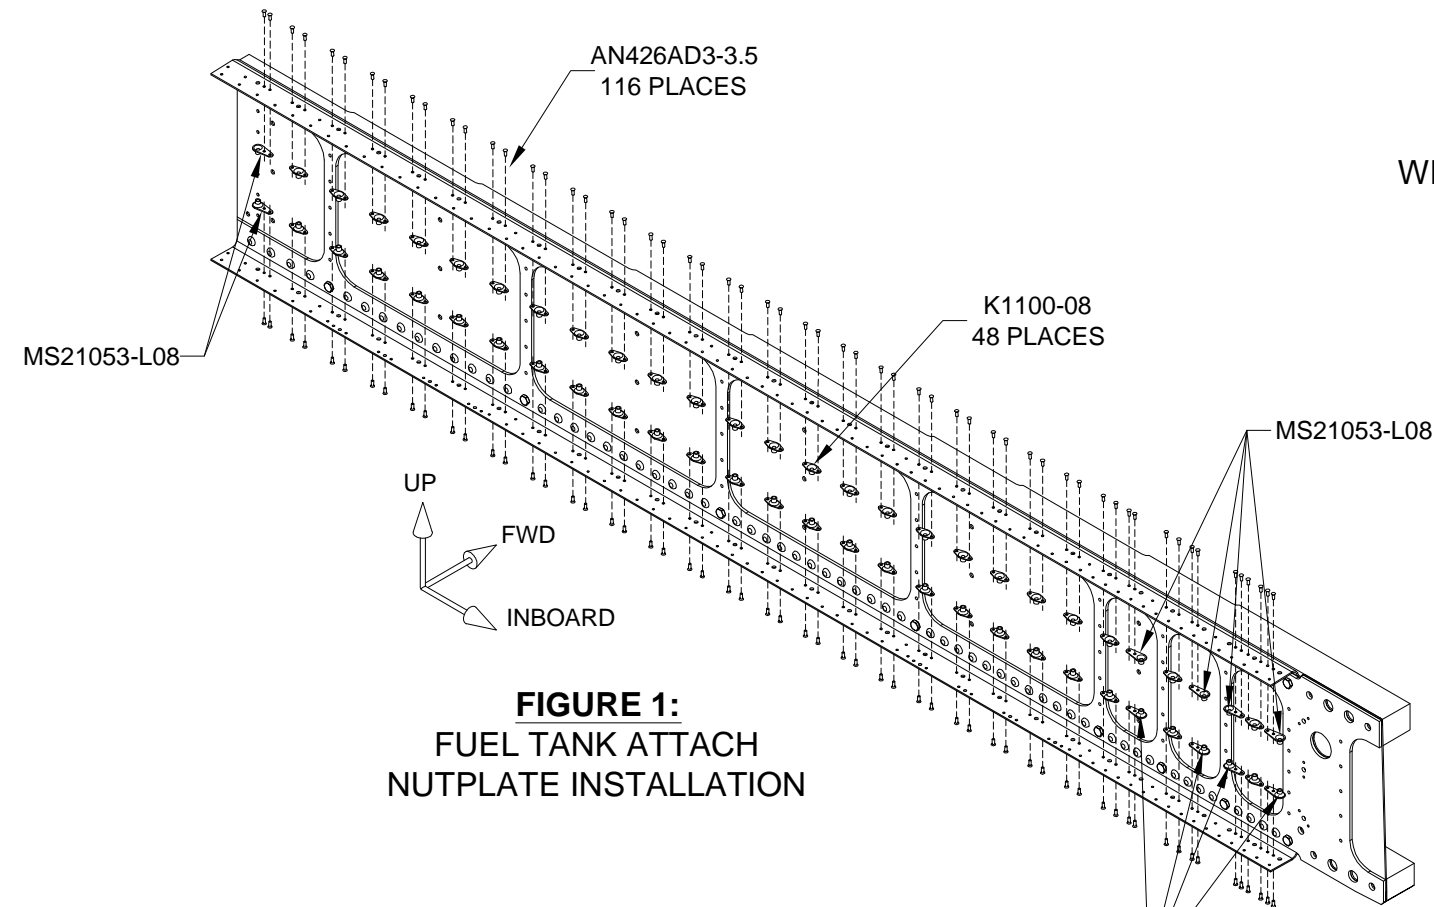

FIGURE 1:
Final-Drill #40 the .094 (2.4 mm) nutplate attach rivet holes near the tip of the main spar assembly as shown in Figure 2 and at the root of the main spar assembly as shown on Page 13-05, Figure 1.
Step 2: Machine countersink the nutplate attach rivet holes in the flanges of the W-00006-L Main Spar Assembly. See Figure 1, Figure 2, and Page 13-04, Figure 1.
Machine countersink the nutplate attach rivet holes near the tip of the main spar assembly as shown in Figure 2 and at the root of the main spar assembly as shown on Page 13-05, Figure 1.
Step 4: Rivet the fuel tank skin attach nutplates to the W-00006-L Main Spar Assembly as shown in Figure 1.